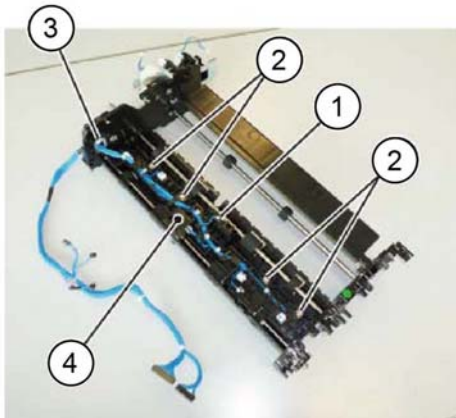

Figure 1 Sensor bracket assembly removal
11. Remove the sensor bracket assembly, Figure 1:
- a. Disconnect the connector (1).
- b. Remove four screws (2).
- c. Remove the wire harness (3) through the hole.
- d. Remove the sensor bracket assembly (4).